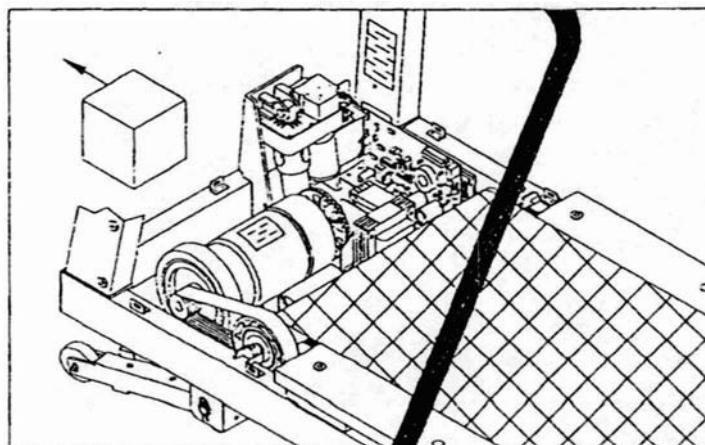

Fig.18
10. Remove the object that you use it to raise the equipment. (See Fig.18)